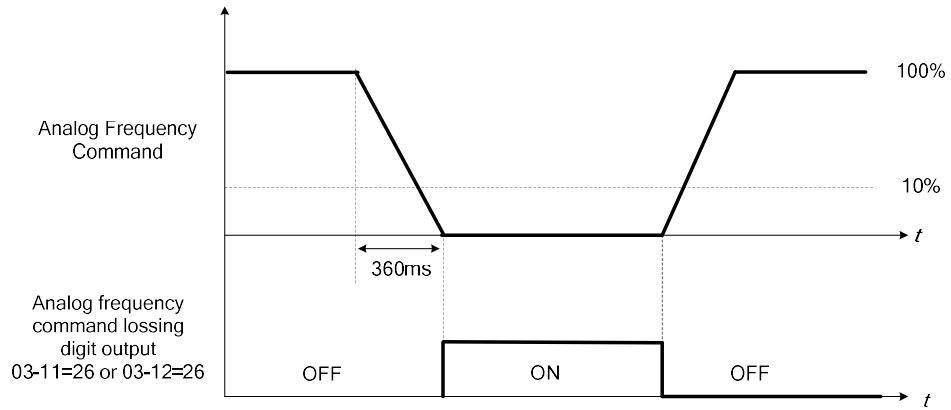

Figure 4.3.120 Frequency Reference Loss Operation
- When regenerative energy decreases, the inverter output returns to the input frequency reference, and the deceleration rate is determined by the DC voltage, as shown in Figure 4.3.120.
- 3) When the inverter is stopped, the deceleration rate is determined by 00-15 (Tdec1). If DC voltage is too high, the inverter decelerates based on the OVP deceleration timing shown in the above Figure 4.3.120.
When 11-40 is set to Over-voltage Prevention Mode 2, its operation is the same as Mode 1 but enhances the response when the DC BUS voltage exceeds 11-39 (OVP Deceleration Stop Voltage) shown in Figure 4.3.120. By increasing 11-28 (OVP Mode 2 Frequency Gain), the system accelerates frequency compensation to prevent over-voltage (OV) faults.